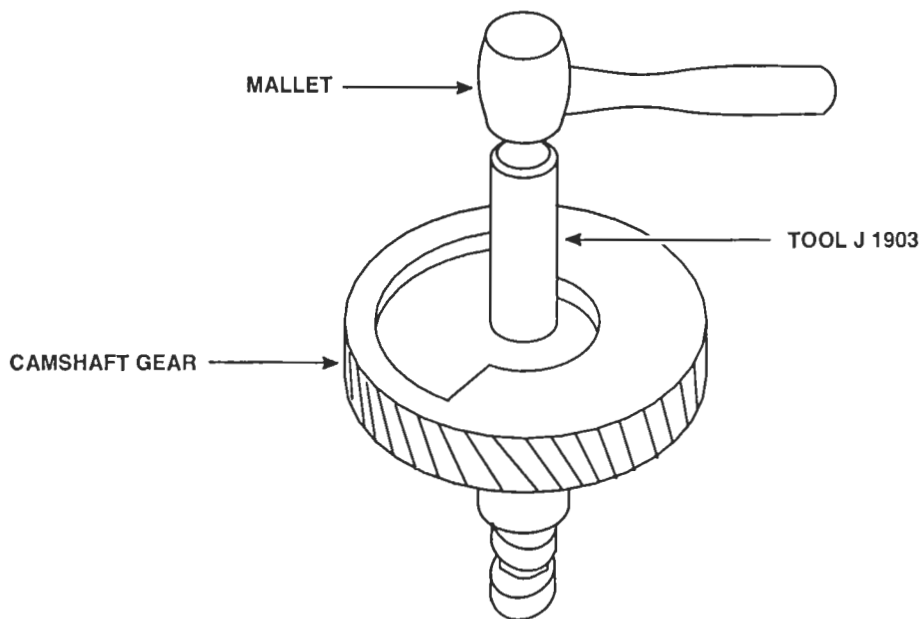

Figure 3. Replacing Camshaft Gear
5. Use gear installer J 1903 to drive the gears on the camshaft and balance shaft (Figure 3.)